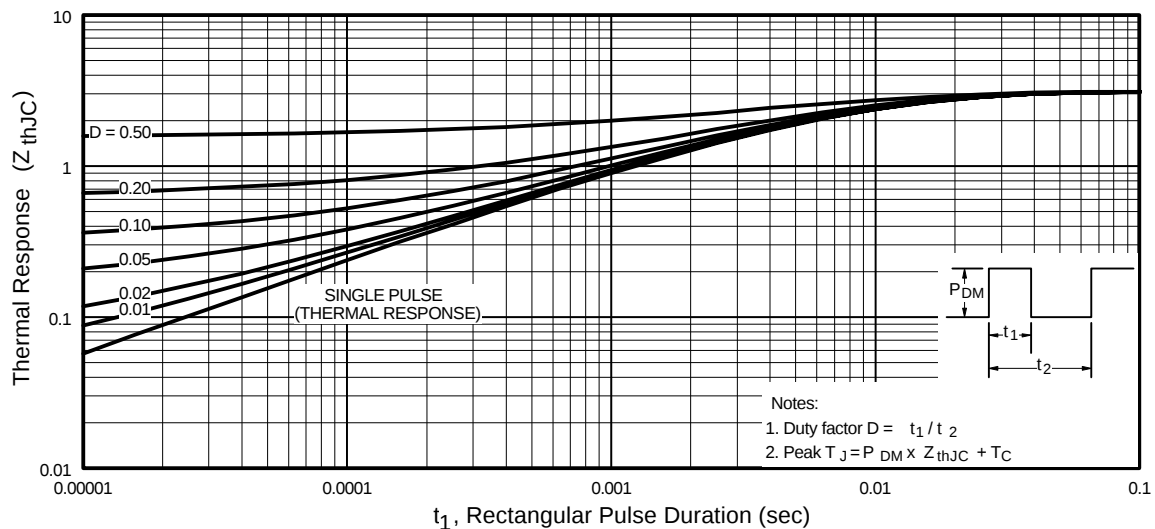

Fig 11. Maximum Effective Transient Thermal Impedance, Junction-to-Case
- ① Repetitive rating; pulse width limited by max. junction temperature. (See fig. 11)
② $V_{DD} = 25V$, starting $T_J = 25^\circ\text{C}$, $L = 4.7mH$